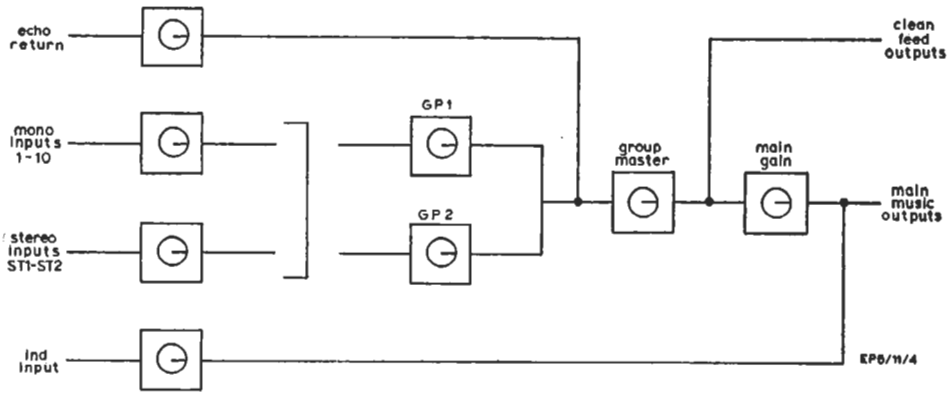

Fig. 2. EP5/11 Overall System
**Facilities Provided (Figs. 2, 7 and 8)**
The main facilities comprise 10 mono and two stereo channels collectively controlled in two groups by group faders, a group master fader and a main gain control. There is also a mono independent channel. Stereo echo is available on all channels except the independent. The overall system is indicated in Fig. 2.